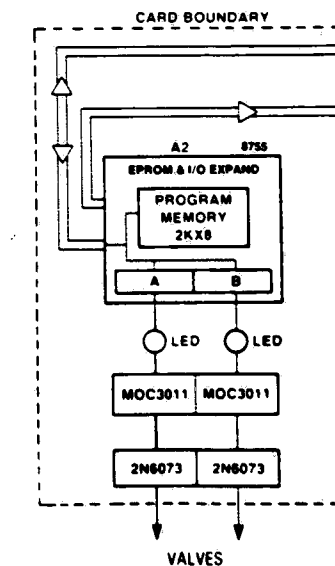

Figure 3-11. I/O #3 PRINTED CIRCUIT BOARD.
**I/O Printed Circuit Board #3 (P-146648; Refer To Figure 3-11)**